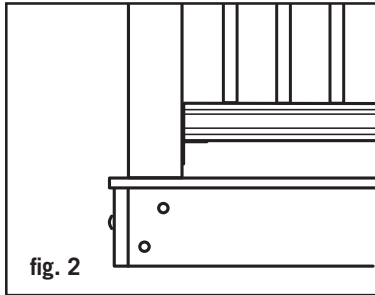

fig. 2
Step 3: Position, plumb with a level, and clamp the rail post on the interior face of the joist. Plumb again. The 4x4 railing post should be bolted to the inside of the joists using two 1/2"x6" galvanized carriage bolts. Corner posts use a third carriage bolt inserted through the adjacent joist (fig. 2).